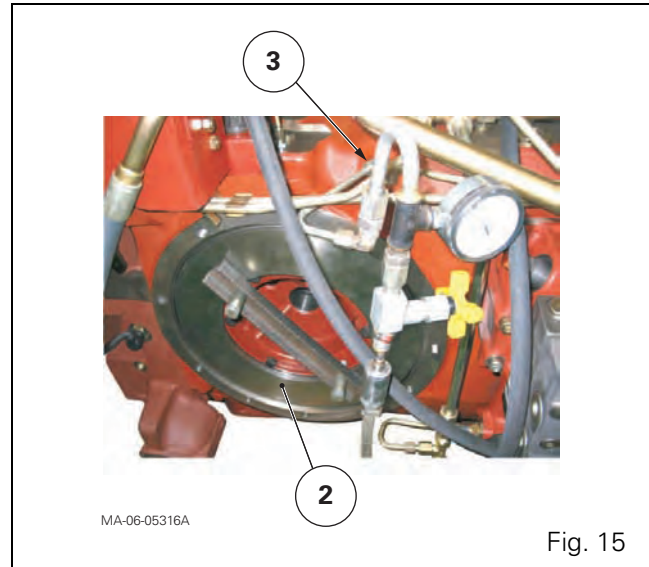

Fig. 15
NOTE: Fig. 15 shows a simplified pressure gauge design. Other more complex pressure gauges can also be used.
15. Fit the tool used for step 12 (see § D) to retain the piston (2) against the centre housing (Fig. 15).
16. Connect the pressure gauge to the union (3) (Fig. 15).
17. Supply the brake piston with compressed air at approximately 3 bar to position the seals (3) (4) in their respective groove.